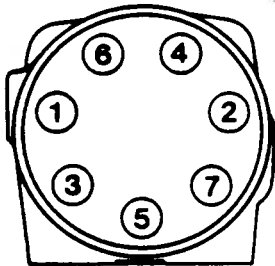

Figure 8-2. Tightening Sequence — Steering Control Valve
- bb. Install seal (3) in end cap.
- cc. Install end cap (1) on gear set, align holes.
- dd. Install seven dry capscrews (2) in end cap (1). Pretighten screws to 150 lbs-in, then torque screws to 275 lbs-in in the sequence shown in figure 8-2.